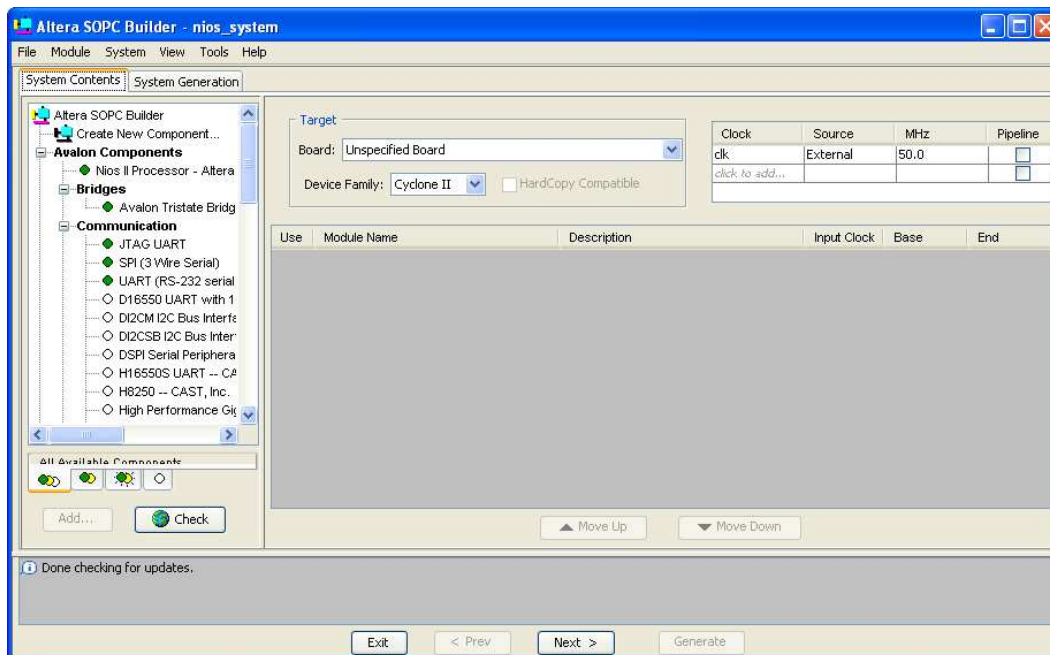
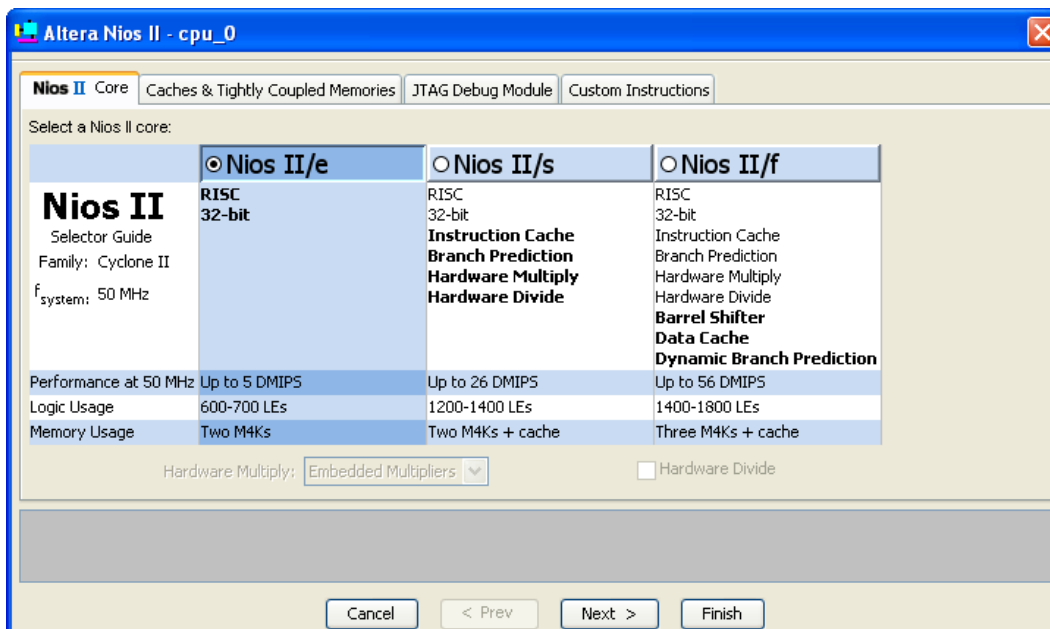
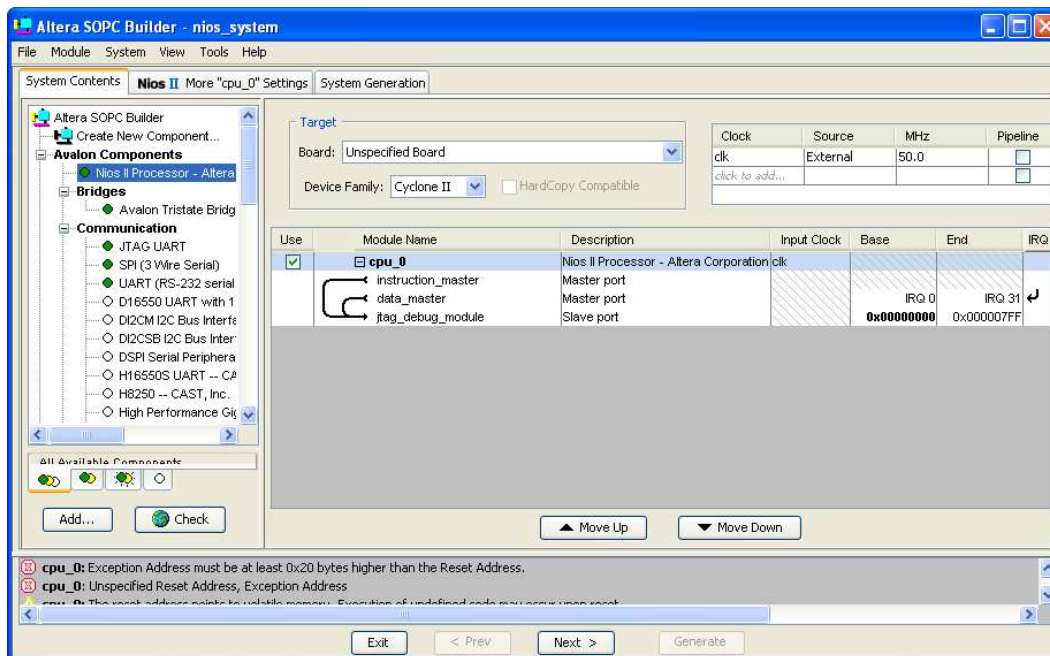

Figure 5. The System Contents tab window.
Figure 6. Create a Nios II processor.
Figure 7. The defined processor.
2. Select **Tools > SOPC Builder**, which leads to the pop-up box in Figure 4. Enter *nios_system* as the system name; this will be the name of the system that the SOPC Builder will generate. Choose Verilog as the target HDL, in which the system module will be specified. Click OK to reach the window in Figure 5.
3. Figure 5 displays the System Contents tab of the SOPC Builder, which is used to add components to the system and configure the selected components to meet the design requirements. The available components are listed on the left side of the window. Before choosing our components, examine the area in the figure labeled **Target**. A drop-down list is provided that allows some available Altera boards to be selected. It is not necessary to select a board, and since the DE2 board is not included in the list leave the selection as **Unspecified board**. Next, check the setting for the **Device Family** and ensure that **Cyclone II** is selected.
4. The Nios II processor runs under the control of a clock. For this tutorial we will make use of the 50-MHz clock that is provided on the DE2 board. As shown in Figure 5, it is possible to specify the names and frequency of clock signals in the SOPC Builder display. If not already included in this list, specify a clock named *clk* with the source designated as **External** and the frequency set to 50.0 MHz.
- On the left side of the window in Figure 5 select **Avalon Components > Nios II Processor - Altera Corporation** and click **Add**, which leads to the window in Figure 6.
- Choose Nios II/e which is the simplest version of the processor. Click **Finish** to return to the window in Figure 5, which now shows the Nios II processor specified as indicated in Figure 7. There may be some warnings or error messages displayed in the SOPC Builder Messages window (at the bottom of the screen), because some parameters have not yet been specified. Ignore these messages as we will provide the necessary data later. Observe also that a new tab called **Nios II More “cpu_0” Settings** appears, which allows further configuration of the processor - we will not use it.